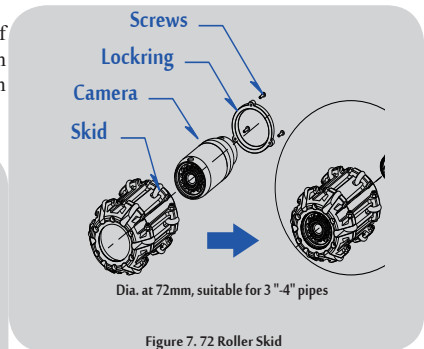

Figure 7. 72 Roller Skid
1) 72 Roller Skid (dia. at 72mm, suitable for 4"-5" pipes) .(See Figure 7)